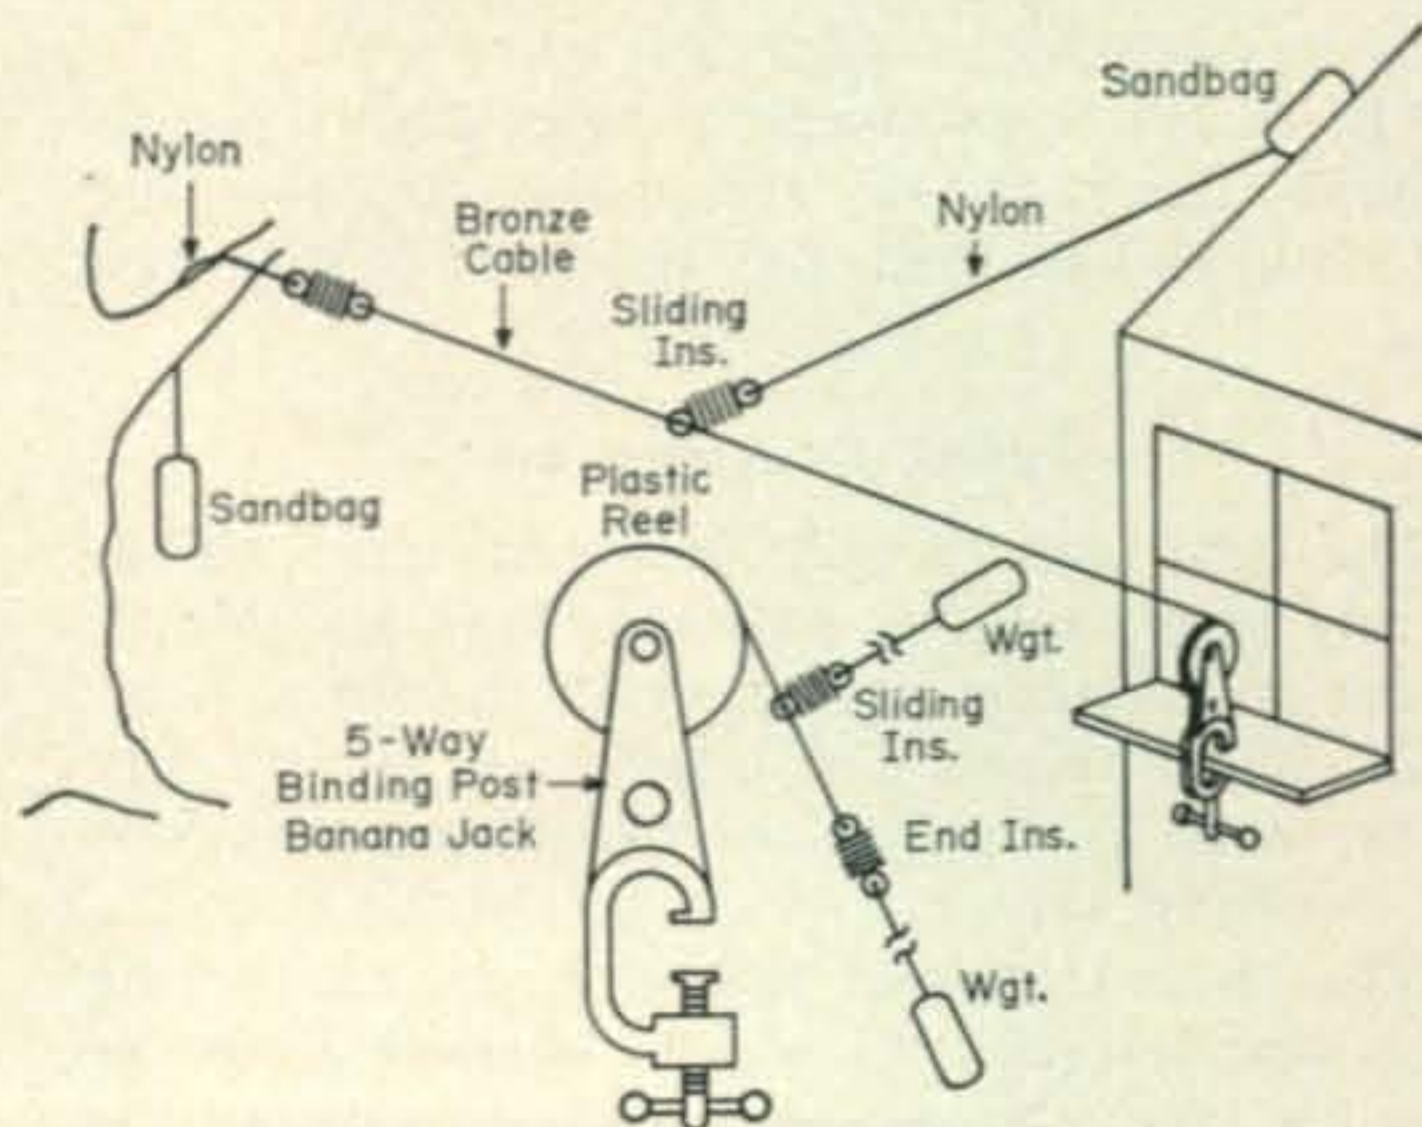

Fig. 3—Construction and typical installation for the long wire antenna.
The long wire antenna consists of 100' of bronze cable (G.C. #70-100 dial cord) on a plastic reel that can be fastened to a clamp. The reel acts as an end insulator. The cable is supported by a small insulator made from a 20' length of nylon cord and a 2 lb. weight at the other end. The weight may be lead but a bag of sand or shot handles better than the solid weight. A sliding insulator with cord and weight supports the close end of the antenna if necessary. The arrangement is shown in fig. 3. Weights can be thrown over existing projections and the length of the antenna adjusted for the circumstances but the longer the better.
- 1—Long wire antenna (fig. 3)